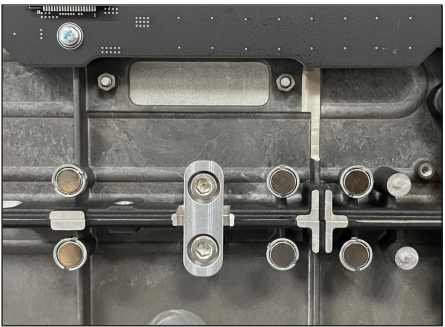

Figure 24: Assembled Panels
10. Install flattening hardware. Refer to **Figure 24**, **Figure 25**, and **Figure 26**.